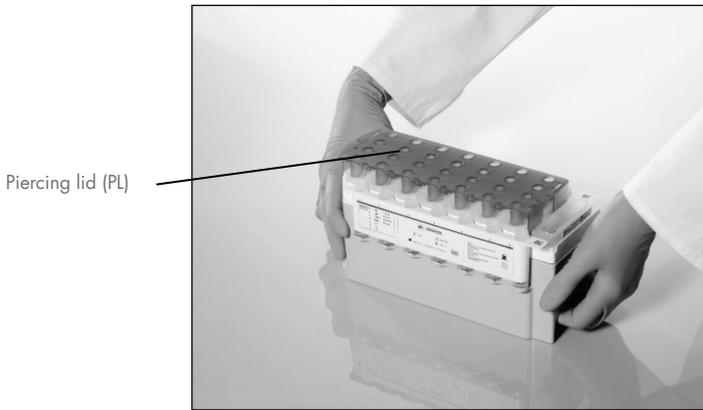

Figure 3. Easy worktable setup with reagent cartridges (RC).
Before starting the procedure, ensure that the magnetic particles are fully resuspended. Remove the magnetic-particle trough from the reagent cartridge frame, vortex it vigorously for at least 3 minutes, and replace it in the reagent cartridge frame before the first use. Place the reagent cartridge (RC) into the reagent cartridge holder. Place the empty enzyme rack (ER) into the reagent cartridge holder. Before using a reagent cartridge (RC) for the first time, place the piercing lid (PL) on top of the reagent cartridge (RC) (Figure 3).